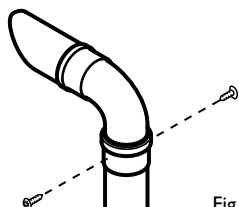

Fig. 33
14. Fit the  $93^\circ$  elbow/plume outlet and secure with the two remaining screws supplied. Ensure the plume outlet is at least  $45^\circ$  to the wall and that the 'peak' is uppermost (Fig. 33).